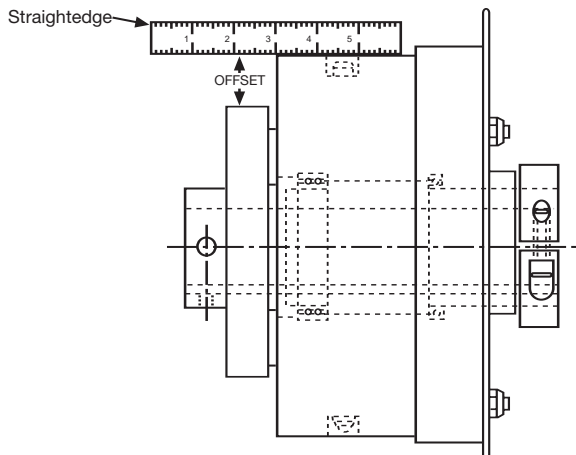

Figure 11
- a. Place a straightedge across the clutch housing and coupling flange as shown in Figure 11.